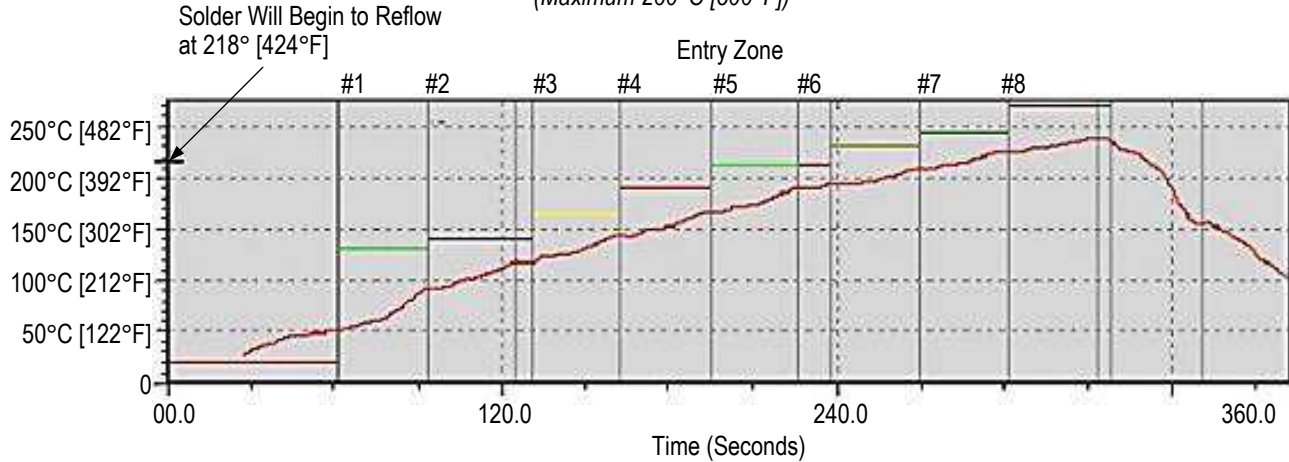

Figure 3
The connector must be soldered using non-focused infrared (IR) reflow or equivalent soldering technique. Reflow temperature and time may vary depending on the size of the pc board and placement of other components. This connector can be subjected to the reflow temperature and approximate time specified in Figure 3.
Excessive temperatures may cause connector housing degradation or plating deterioration. It is recommended that component temperatures not exceed the temperatures and times given in Figure 3.